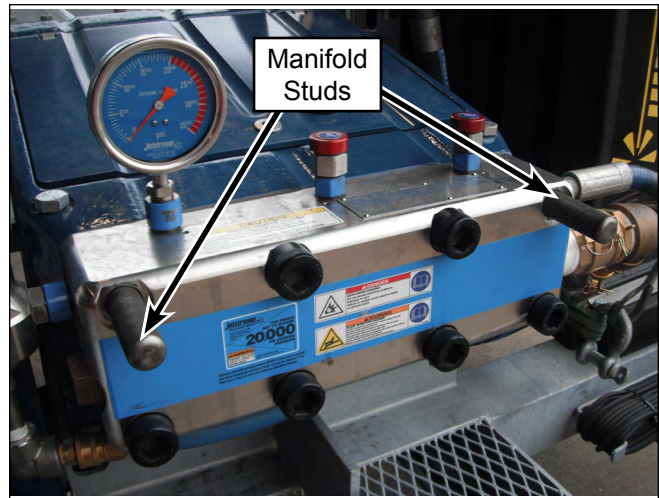

Figure 18: Using Manifold Studs
7. Remove the top manifold bolts at each corner and install manifold mounting studs into the two open holes to allow for easier installation of the new manifold (Figure 18, following page)